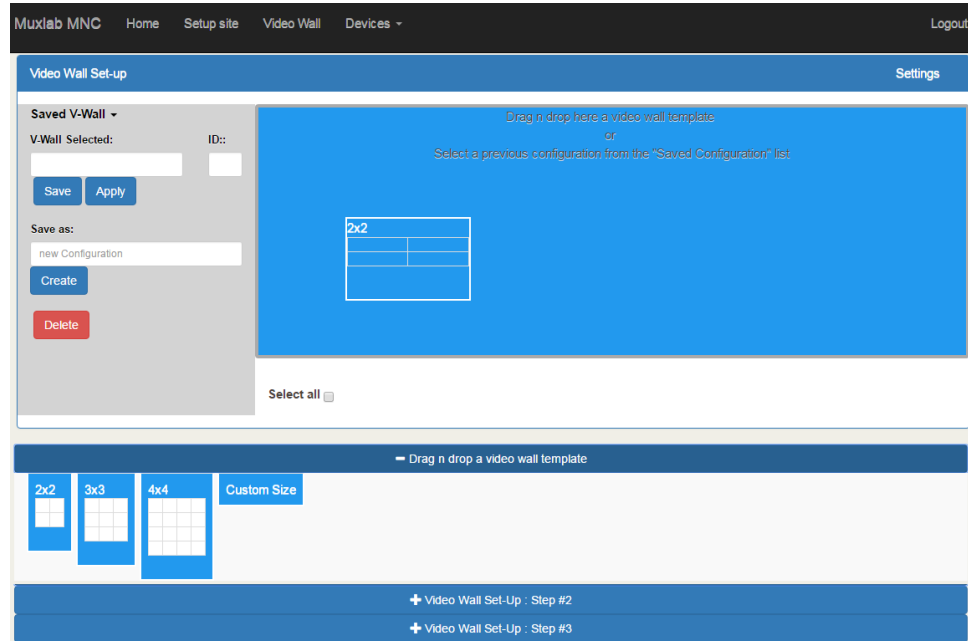

Figure 99: Video Wall Tab – Dragging to Create a 2x2 Video Wall
- a. By clicking on and dragging any of the NxN preconfigured boxes into the display pane, the user creates a video matrix of the same size. In the example shown in Figure 99, a 2x2 video wall consisting of 4 monitors is created. Custom video wall sizes may also be created.